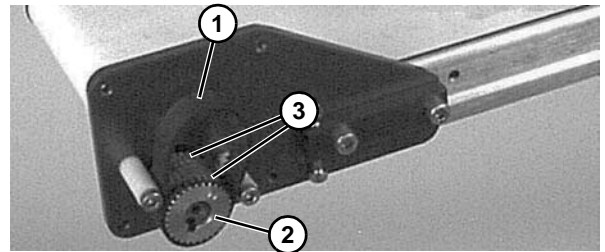

Figure 54
4. Remove old timing belt (Figure 54, item 1).
5. Place new timing belt (Figure 54, item 1) over driven pulley (Figure 54, item 2) and between belt flanges (Figure 54, item 3).